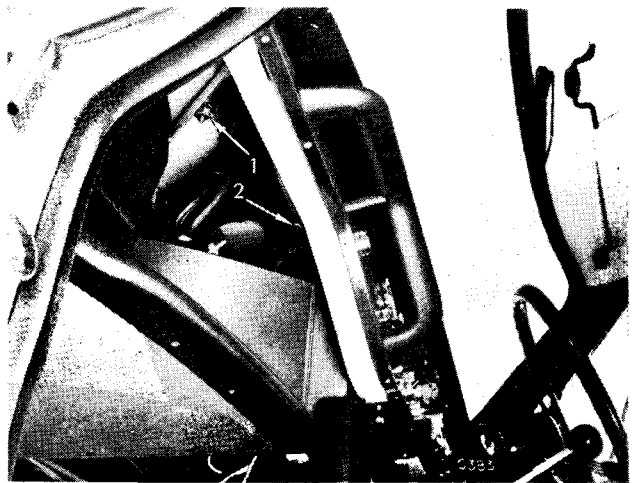

Fig. 26. Demister fishtail attachment
Remove the passenger's side parcel shelf, page 5-215. Pull off the demister hose and remove the demister fishtail, two nuts (2) (Fig. 26).
1. Lift out the ash tray (1).
2. Remove two nuts (2) (Fig. 26) and lift out the vent trims.
3. Remove six nuts (4).
4. Prise off the capping (2).